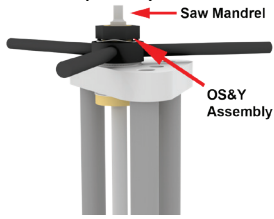

Figure 18
3.2.14) Tighten the packing nut when the cutter and pilot drill are completely inside of the installation housing. The hexagon end of the saw mandrel should be at or near the OS&Y Assembly (see Figure 18).